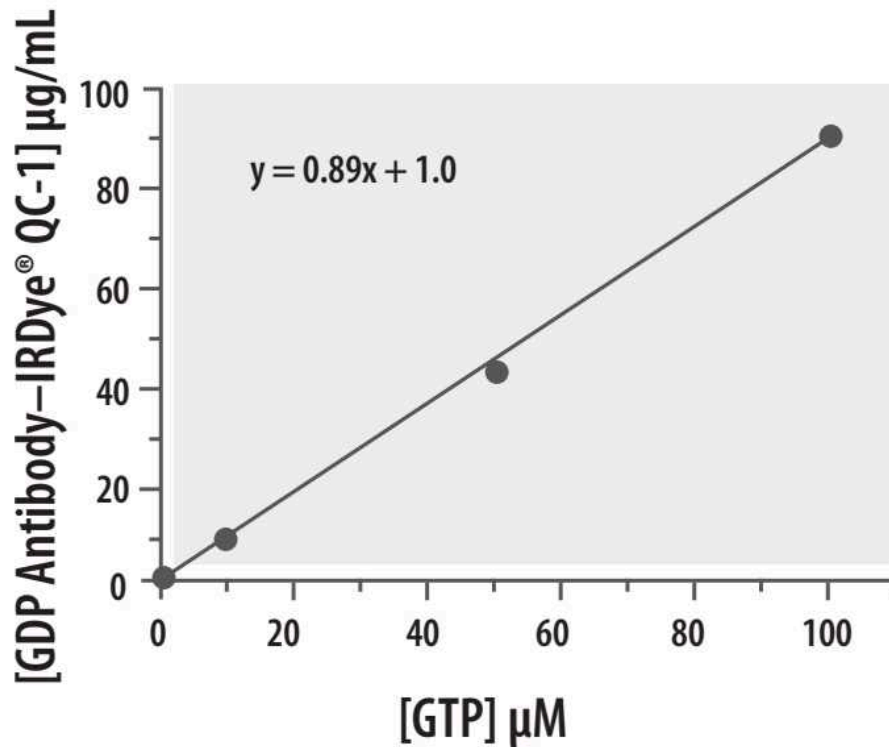

Figure 3. Linear relationship between [GTP] and [GDP Antibody-IRDye® QC-1]. The antibody concentration can be calculated using the equation: $y = 0.89x + 1.0$.
As shown in **Figure 3**, the relationship between GTP and GDP Antibody-IRDye® QC-1 concentrations is linear. (Though shown for 0.1–100 μM GTP, the relationship is valid to 1,000 μM GTP.) Therefore, the quantity of GDP Antibody-IRDye® QC-1 for enzyme reactions that use between 0.1 μM and 1,000 μM GTP can be determined using the equation $y = mx + b$, where x = [GTP] (μM) in the enzyme reaction, y = [GTP Antibody-IRDye® QC-1] (μg/mL) in the 1X GDP Detection Mixture, m (slope) = 0.89, and b (y-intercept) = 1.0. We recommend a final reaction volume of 20 μL (384-well plate) or 50 μL (96-well plate).
Using the GDP Antibody-IRDye® QC-1 concentration calculated using the equation in **Figure 3** will produce excellent results for most users. If it does not produce the results you require, refer to **Section 7.1** for instructions on titrating the antibody in the buffer system ideal for your enzyme target.
Final concentrations in the detection mixture should be 8 nM tracer, 1X Stop & Detect Buffer B, and the antibody concentration calculated in **Figure 3 (Section 4.2)**. An example is shown below:
- 7.1 Using an antibody concentration calculated using the equation in **Figure 3 (Section 4.2)** will produce excellent results for most users. If it does not produce the results you require, we recommend that you titrate the GDP Antibody–IRDye® QC-1 in the buffer system ideal for your enzyme target. This titration will determine the optimal antibody concentration for your assay conditions. The nucleotide substrate concentration in the enzyme reaction generally determines the appropriate concentration of antibody. We recommend using the EC₁₀ concentration of antibody.